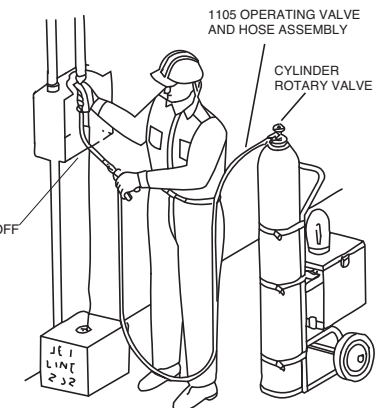

Figure 9
All CO₂ systems may be used to blow pull line or nylon line in the Conduit. Position cart transported cylinder and pull line in a location that will allow good access to the conduit entrance (Refer to Figure 9).
- Connect the seal-off to the operating valve and make a preliminary operating valve adjustment for moderate flow of CO₂. This is accomplished by backing out the operating valve handle regulating screw and operating the valve until the desired flow of CO₂ gas is obtained (Refer to Figure 9).